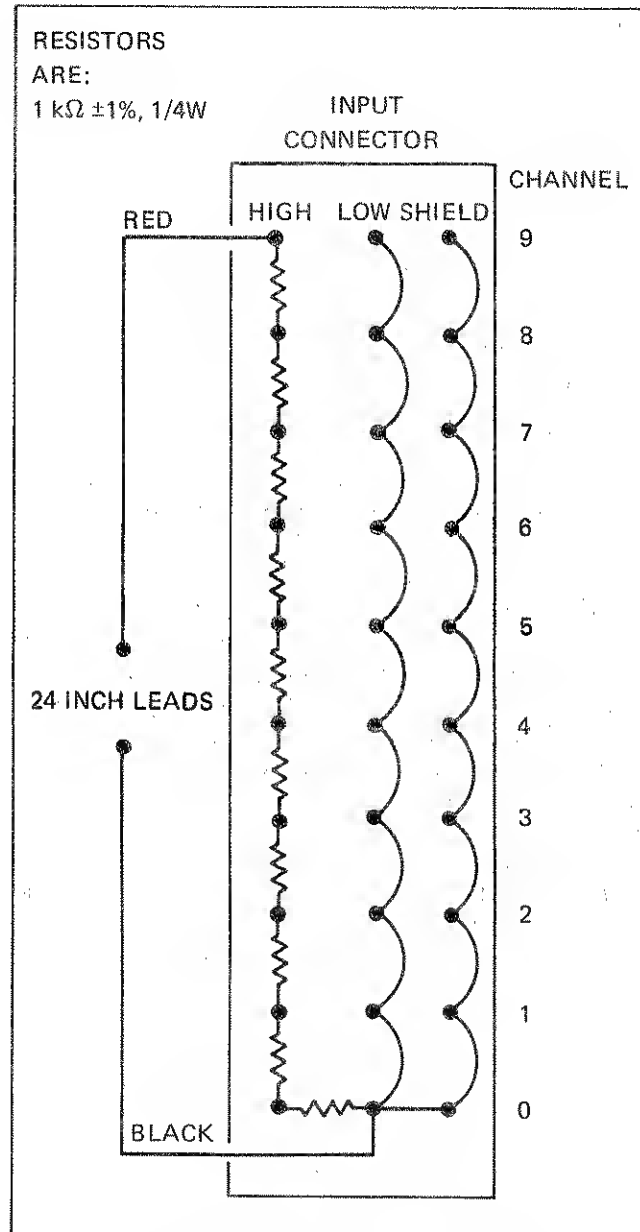

Figure 600-3. Scanner Test Cable
1. Fabricate a scanner test cable as shown in Figure 600-3 using the resistors specified in Table 600-2.